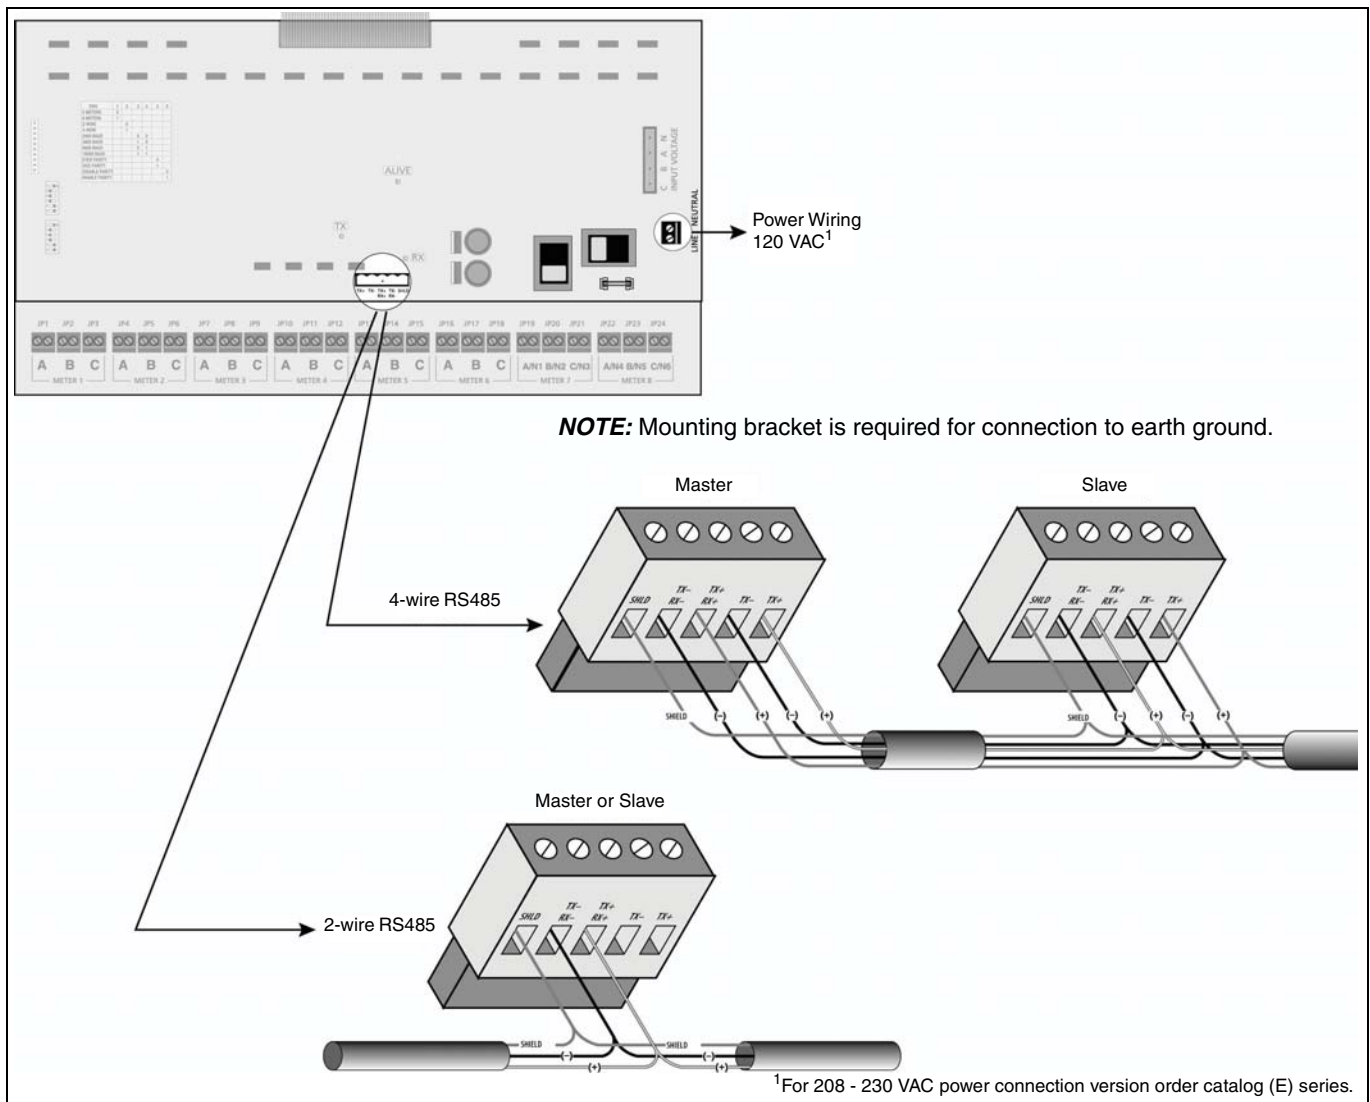

Figure 5: Communications connections
1. Wire the communications connector of the multi-circuit meter as shown in Figure 5.